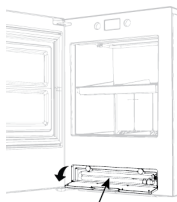

Fig. 3, drain the reservoir using the front drain tube.
11. Once cleaning is completed, drain the reservoir using the front drain tube. See Fig. 3. Remove and discard any ice in the ice maker. Do not consume this ice.
1. Use the front drain tube to empty all water from the ice maker. (See Fig. 3 on page 20.)